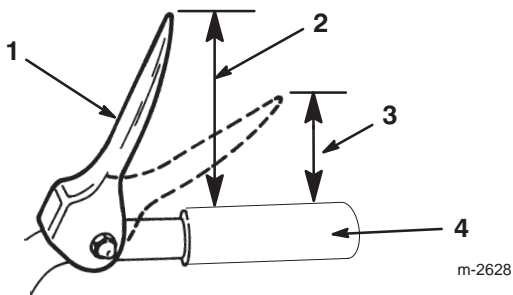

Figure 10
3. Adjust the flange locknut up or down on the upper traction rod until the distance between the top of the handgrip and the bottom of the traction control lever is approximately 5 inches (12.7 centimeters) as shown in Figure 10.
Note: The adjustment is correct when the wheels stop rolling backward and the distance between the top of the handgrip and the bottom of the traction control lever is 3 to 4 inches (7.6 to 10.2 centimeters) as shown in Figure 10.